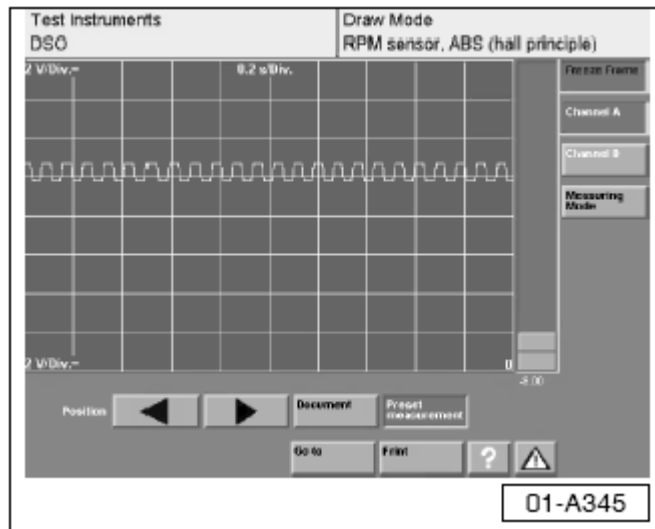

Figure 1. Smooth curve and frequency.
- Curve and frequency must be smooth and uninterrupted as shown in Figure 1.